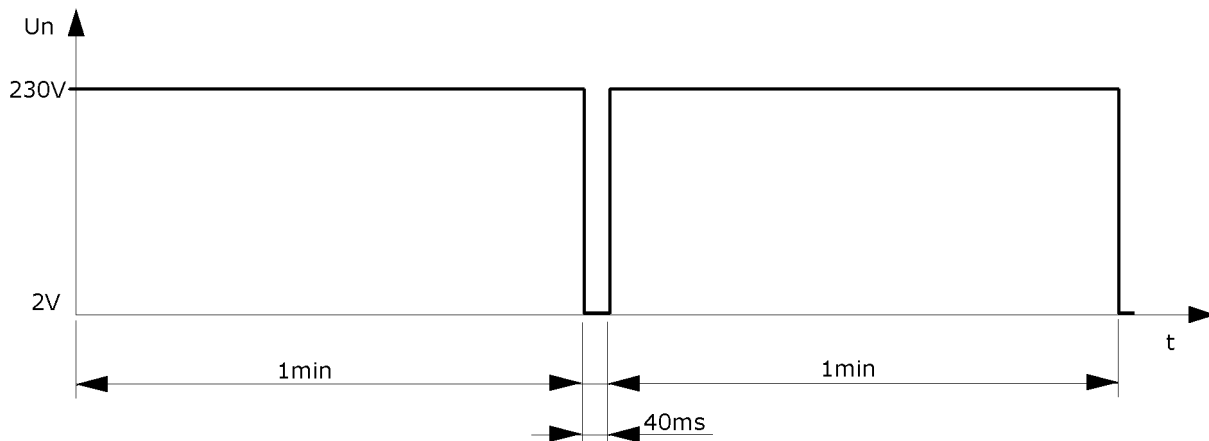

Fig.2.2. *Voltage interruptions of  $\Delta U = 100\%$ , two cycles at rated frequency*
Configuration of the procedure for a *voltage interruptions of  $\Delta U = 100\%$ , two cycles at rated frequency* test is presented in Fig.2.2. This procedure contains from 3 points:
- c) set the *Change setting's* *Duration* time (pos.4) to 60 s (seconds),
- d) add configured point to the procedure (pos.5),
- e) repeat points from b) to d) to add rest of test points (according to Fig.2.2) – change will be required only in:
- f) save the procedure file (pos.6).